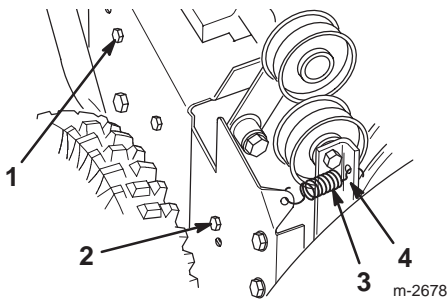

Figure 25
- Bolt (3)
- Loosen the auger brake arm assembly by loosening the rearmost screw and removing the front screw (Fig. 25).
- Remove the idler pulley spring (Fig. 25). Let the brake arm assembly hang free but out of the way.
4. Loosen the auger brake arm assembly by loosening the rearmost screw and removing the front screw that fasten the auger brake arm assembly to the frame (Fig. 25).
5. Remove the idler pulley spring (Fig. 25). Let the brake arm assembly to hang free but out of the way.